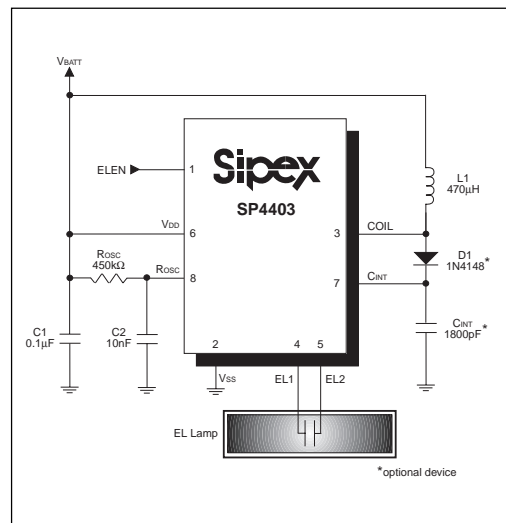

Figure 2. Typical Application Circuit for the SP4403, Set for a Square Wave Output with  $C_{INT} = 0.1\mu F$
A total of only six external components are required for the standard operation of the **SP4403**: an inductor, a fast recovery diode, three capacitors and a resistor. A diagram of the **SP4403** in a typical application can be found in *Figure 2*.
**Increase EL Lamp Light Output:** By connecting a fast recovery diode from COIL (pin 3) to  $C_{INT}$  (pin 7), the internal diode of the switched H-bridge network is bypassed resulting in an increase in light output at the EL lamp. We suggest a fast recovery diode, such as the industry standard 1N4148, be used for D1. This circuit connection can be found in *Figure 2*.
A designer may change the output waveform to a square wave by using a 0.1 $\mu\text{F}$  capacitor (shown in *Figure 2*) at  $C_{INT}$  (pin 13).
The **SP4403**'s high-frequency operation makes PC layout important for minimizing ground bounce and noise. Keep the IC's GND pin and the ground leads of C1 and  $C_{INT}$  in *Figure 2* less than 0.2in (5mm) apart. Also keep the connections to L1 (pin 3) as short as possible. To maximize output power and efficiency and minimize output ripple voltage, use a ground plane and solder the IC's  $V_{SS}$  (pin 2) directly to the ground plane.